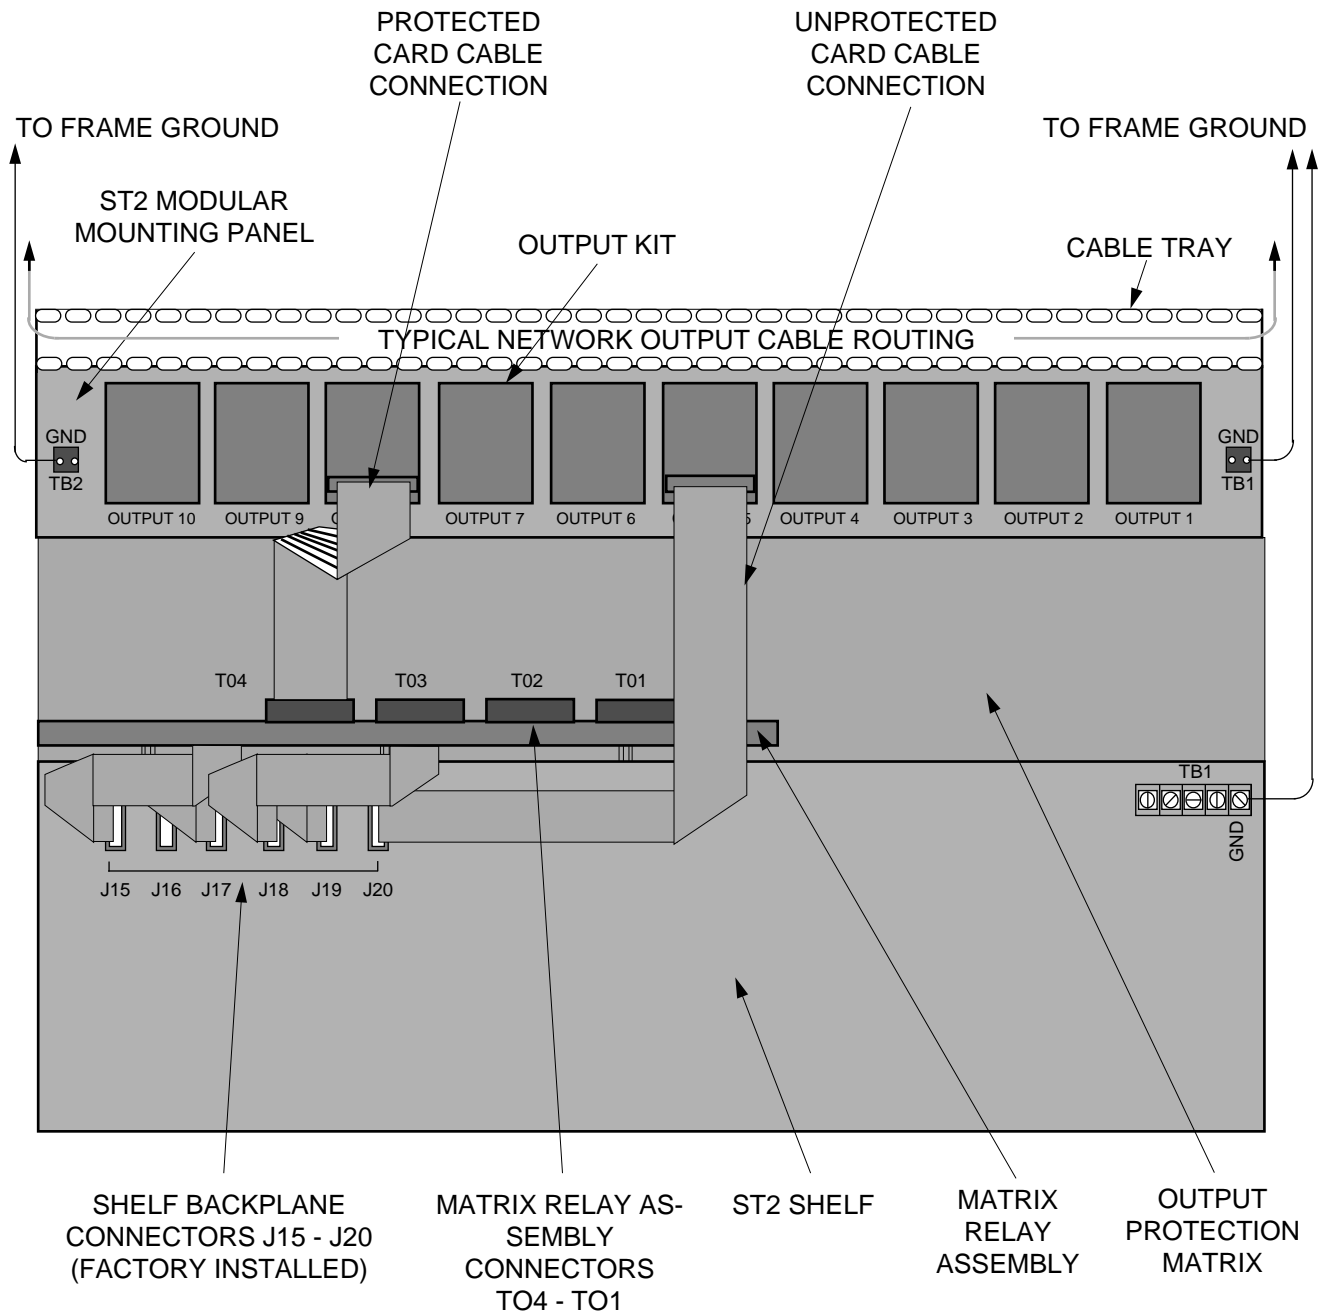
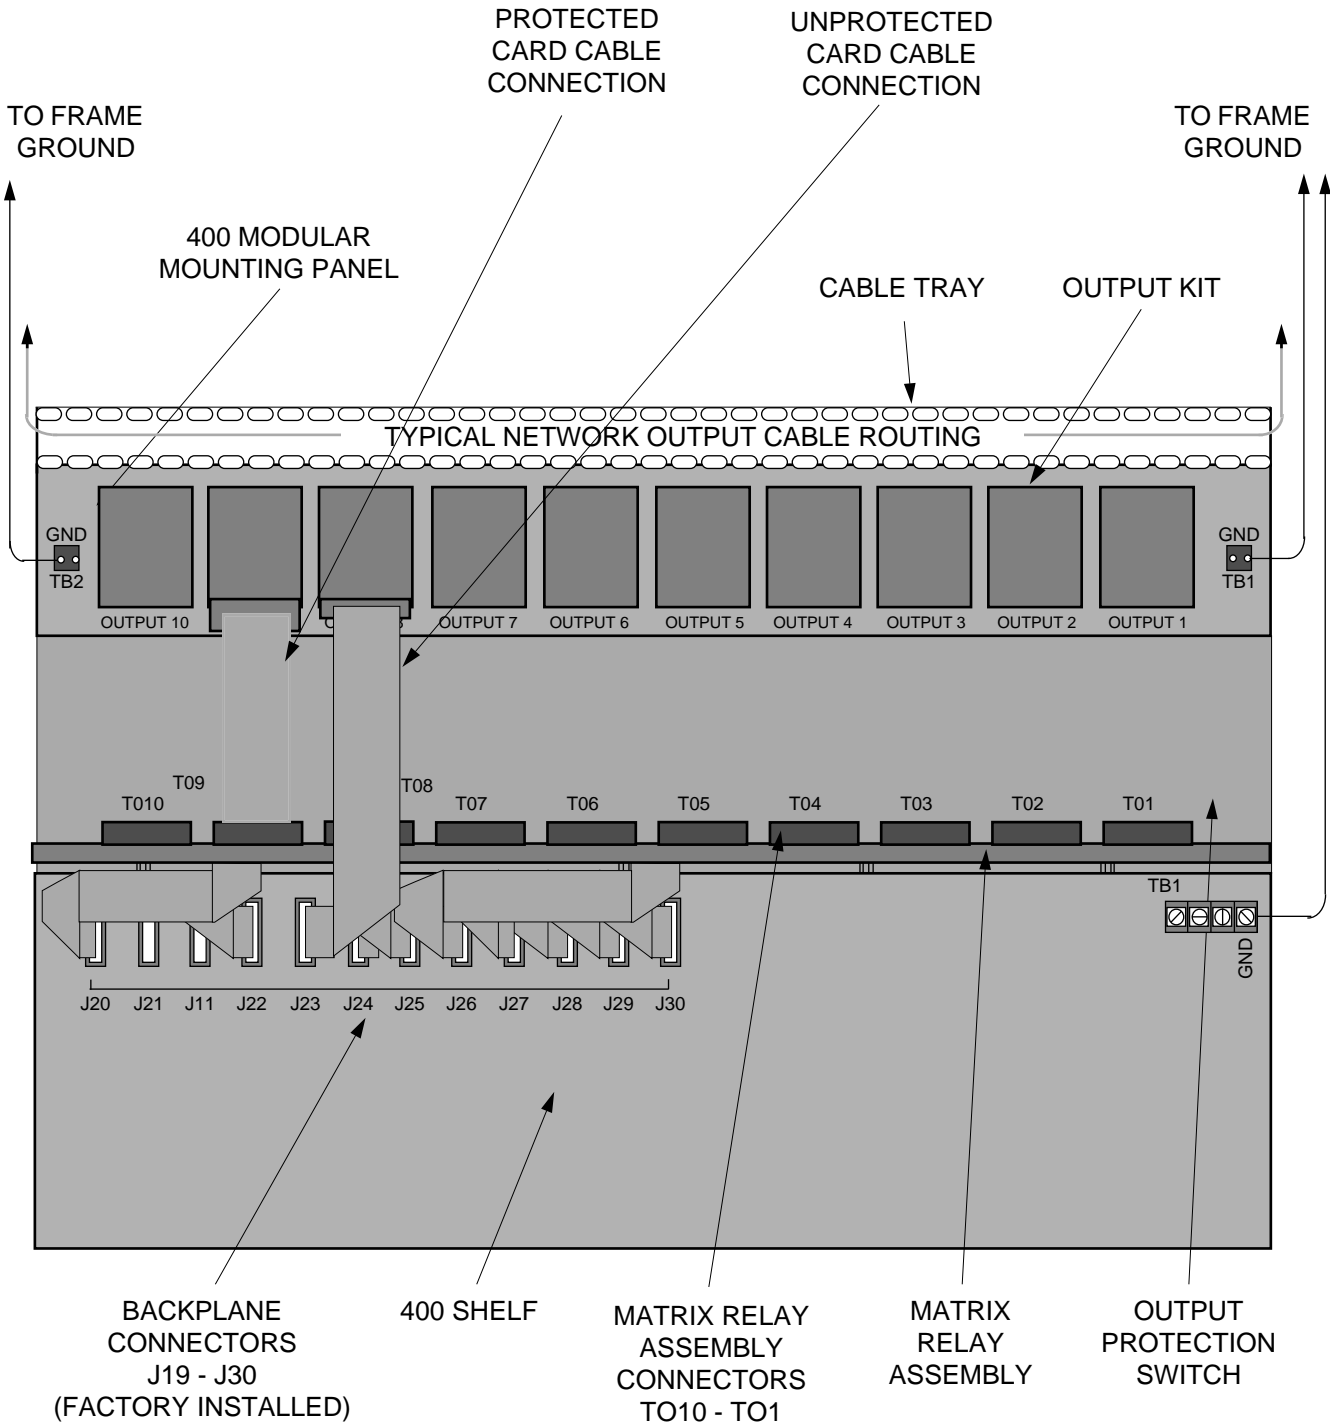

Figure 8. DCD-ST2 Shelf to MMP Connection (Rear View)
Figure 9. DCD-400 Modular Mounting Panel Cabling (Rear View)
6. **If configuring the DCD-ST2 or DCD-400 for protected output slots:** use the provided 6.5-inch ribbon cables (p/n 060-40001-01) between the relay matrix connectors TO1 through TO4 for the DCD-ST2 shelf, and TO1 through TO10 for the DCD-400 shelf and the corresponding connectors on the output modules (refer to Figure 8 and Table G for the DCD-ST2, and Figure 9 and Table H for the DCD-400).
- b. Connect the cables between the connectors J15 through J20 for the DCD-ST2 shelf backplane, and J19 through J30 for the DCD-400 shelf backplane and the corresponding connectors on the output modules (refer to Figure 8 and Table I for the DCD-ST2, and Figure 9 and Table J for DCD-400).
2.19 Frame ground is connected at the TB1 FRM terminal on the DCD backplane; TB1 also applies -48V A and -48V B. The terminal block is a screw terminal type for spade lug and ring-terminal lug connections. Figures 4 through 6 and Figures 8 through 10 illustrate the DCD ground connections.